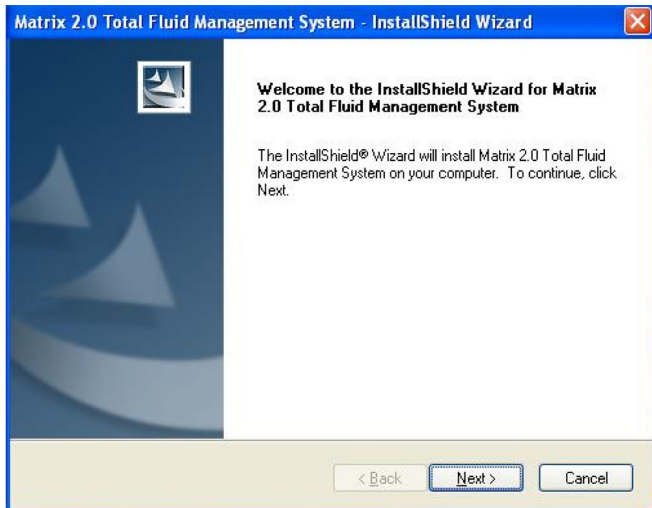
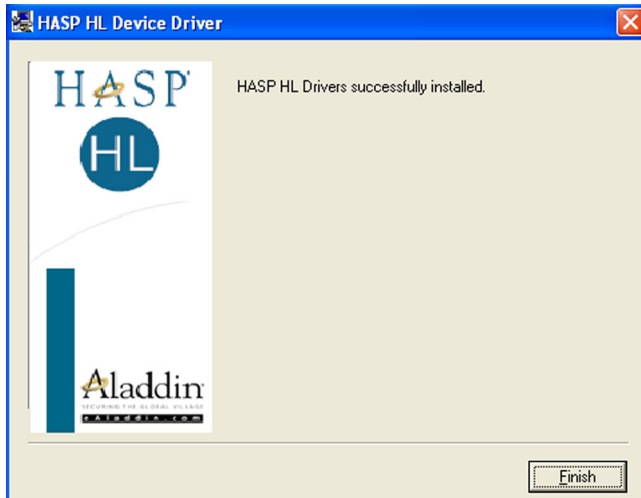

FIG. 12 Setup Path 1 - InstallShield Wizard
FIG. 25 HASP Setup Complete
FIG. 12 through FIG. 25.
- The setup program should start automatically. If it doesn't, open Windows Explorer (**Start / All Programs / Accessories**). Locate the CD-ROM drive letter under **My Computer** and double-click the **Setup Executable File** to see the screen shown in FIG. 12. Click **Next**.